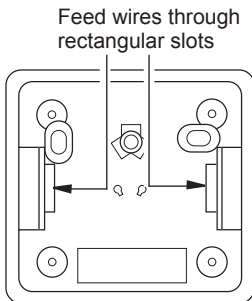

Figure 34 - Back View of Thermostat Base
- Feed the electrical wires through the rectangular slots on each side of the base (see Figure 34).